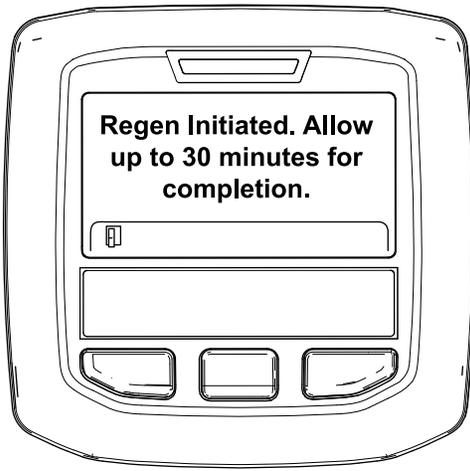

Figure 48
- If the regeneration is allowed, the "Regen Initiated. Allow up to 30 minutes for completion" message displays in the InfoCenter, wait for the machine to complete the parked regeneration process (Figure 48).